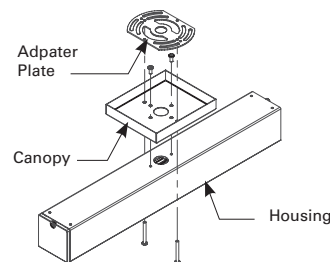

Figure 7
- For wall or ceiling mount, attach the canopy over the hole in the center of the housing using the screws used to hold the hanger bar brackets (See Figure 7).
Secure the canopy to the junction box using the adapter plate and screws provided (See Figure 7/8). The adapter plate is designed to be connected to a NEMA standard 3.5" round, 4" round, 3.5" octagon, 4" octagon, or handy (single gang) box. However, it is possible to connect the adapter plate to other electrical boxes with some modification.